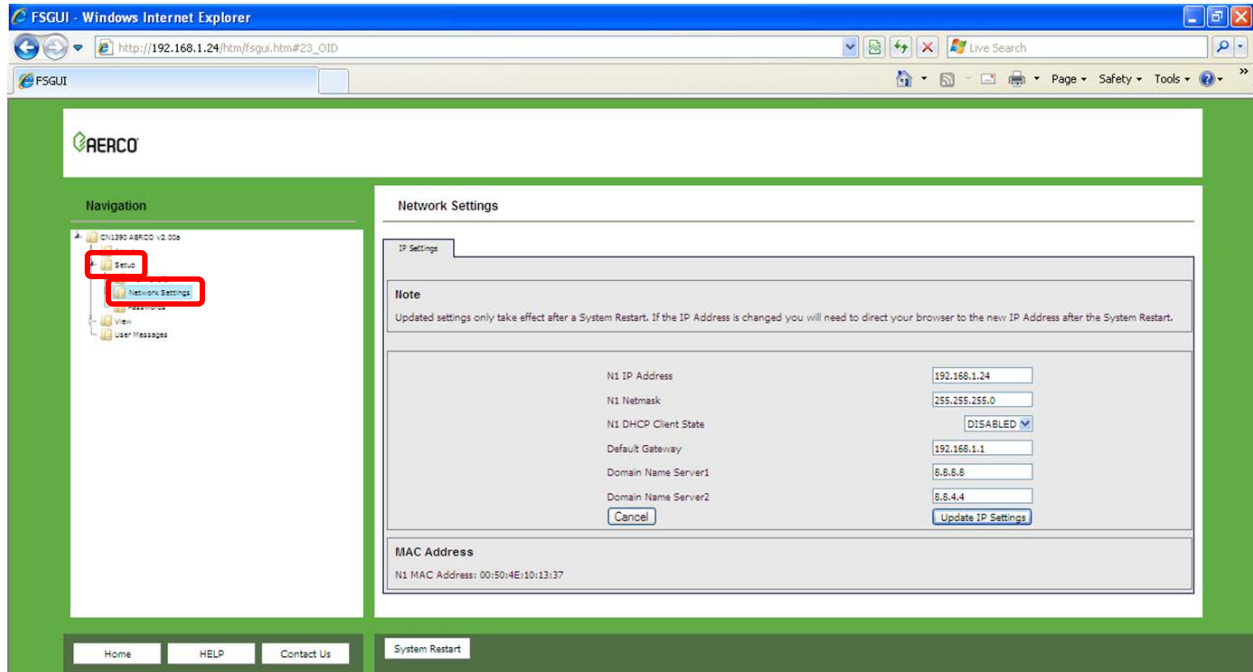

Figure 4-2: Changing IP Address via Web GUI
- From the Web GUI's landing page, click on **Setup** to expand the navigation tree and then select **Network Settings** to access the IP Settings menu (Figure 4-2).